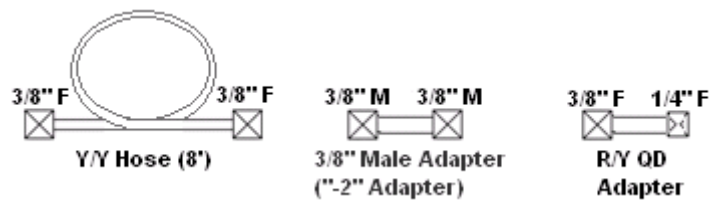

Figure 10-1.- CWC-I Fill Assembly.
#### A. CWC-I FILL ASSEMBLY SET UP (see fig 10-1)
2. Configure CWC-I Fill Assembly as shown in fig 10-1